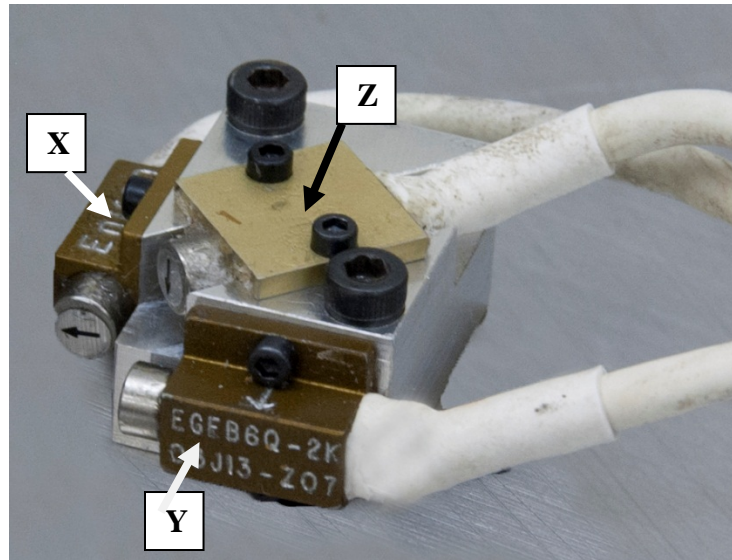

Figure 2. Install accelerometers to mounting block
- Attach the 3 accelerometers to the accelerometer mounting block using two (2) M1.4 x 3 SHCS for each accelerometer (Figure 2). Ensure that all axes are oriented properly. Note that the Z axis accelerometer is installed upside down.